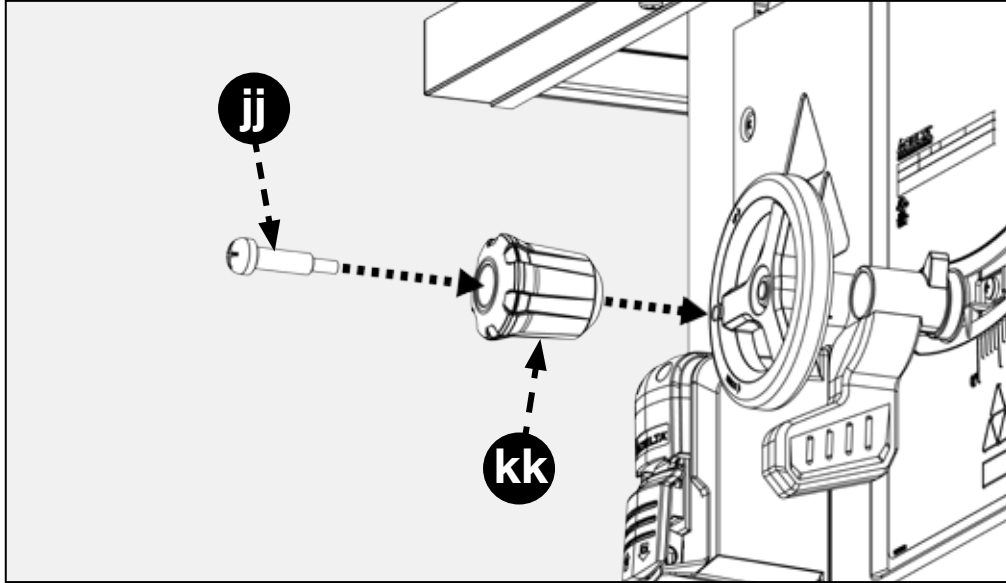

FIGURE 17
1. Insert wheel handle shoulder screw (jj) into height adjustment wheel knob (kk) as shown in Figure. 17.
After installing height adjustment knob as shown in Figure. 17, raise motor/arbor assembly to the upper most position to provide easy access to riving knife lock lever and arbor assembly.